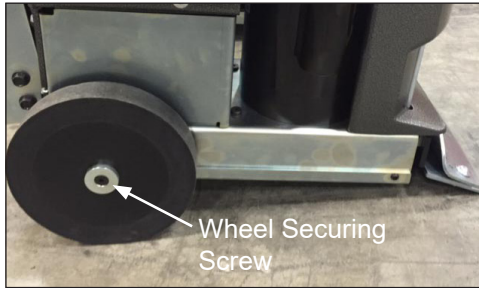

FIG. 1
3. Use 5/16" hex wrench to remove wheel securing screw (Figure 1).